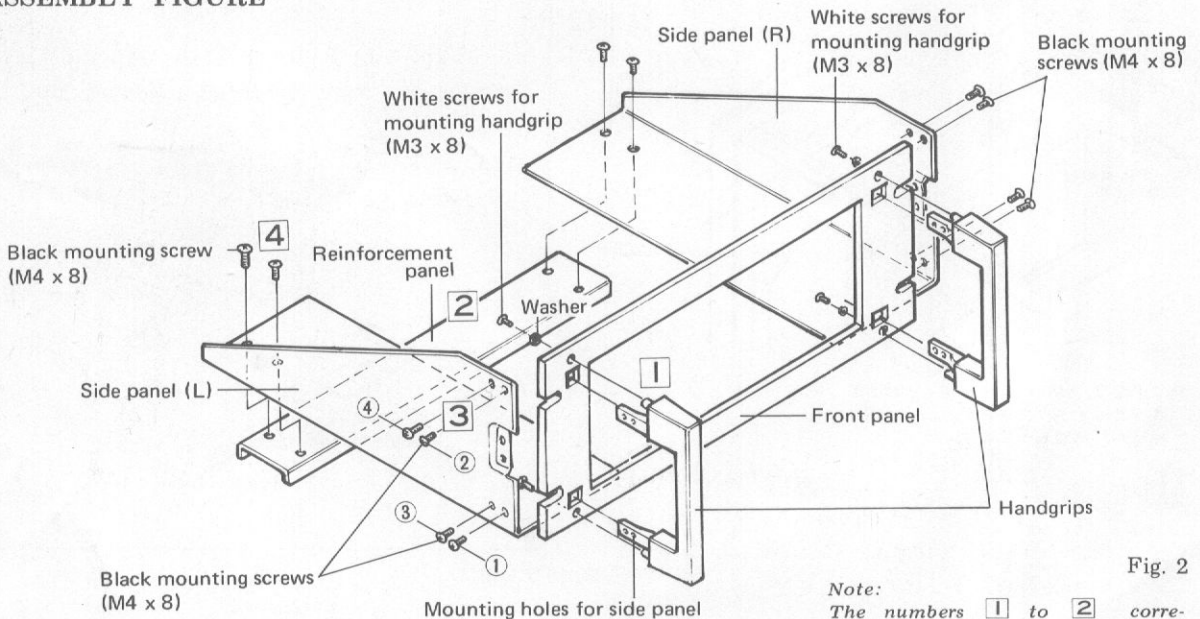

Fig. 2
- 2 Using the four screws (M3 × 8) for mounting the handgrips and the four washers, secure the handgrips to the front panel from behind (Fig. 2).
- 3 Next, align the left (L) side panel with the side panels of the handgrips and, using the four mounting screws (M4 × 8), insert into the mounting holes on the handgrips' side panels and secure. Then secure the right (R) side panel in the same way.